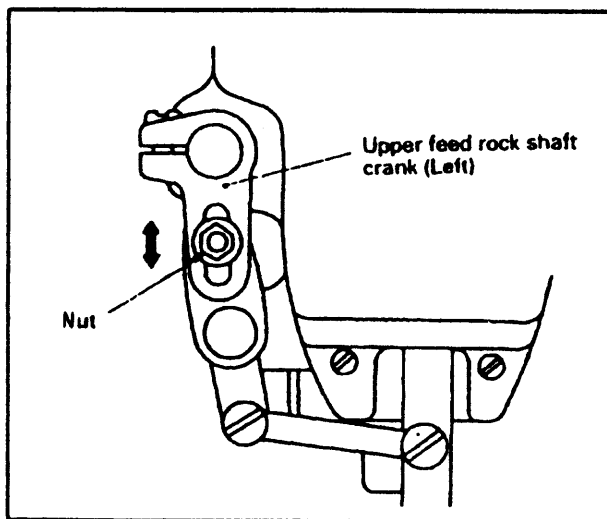

Fig.13
(2) With the feed regulator stud held as explained in step (1) above, adjust the feed regulator bracket. This adjustment should insure a clearance of 12mm between the periphery of pin "B" located on the feed regulator bracket and the top cover mounting face located on the arm. Tighten screw "C".
4) Feed pitch adjustment of walking foot (Fig.13):